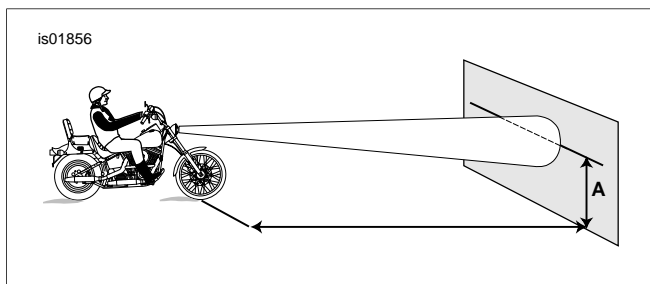

Figure 12. Headlamp Alignment
- See Figure 12, Letter (A). Draw a horizontal line 35 inches (0.9 m) above floor on screen wall.